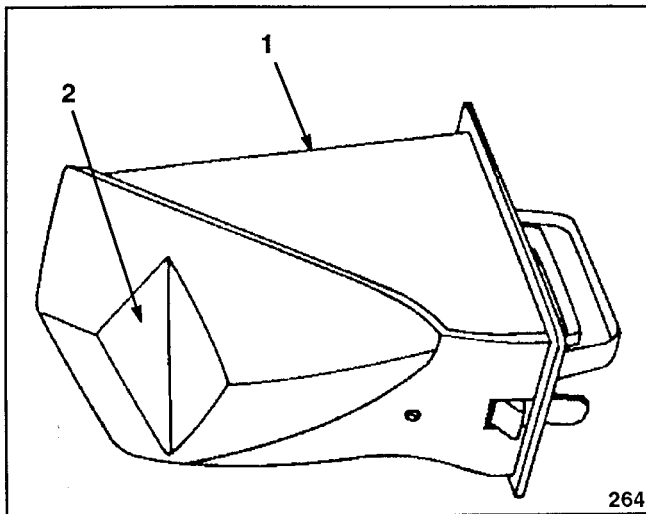

Figure 7
- A special plug which locks into the mower's discharge tunnel (a fifth kicker is on the plug) (Fig. 7)
It is possible to mow without using the plug by closing the discharge tunnel door. However, your lawn appearance will be much more satisfactory if you use the plug as it has an additional kicker (Fig. 7) that helps drive the clippings down into the grass.